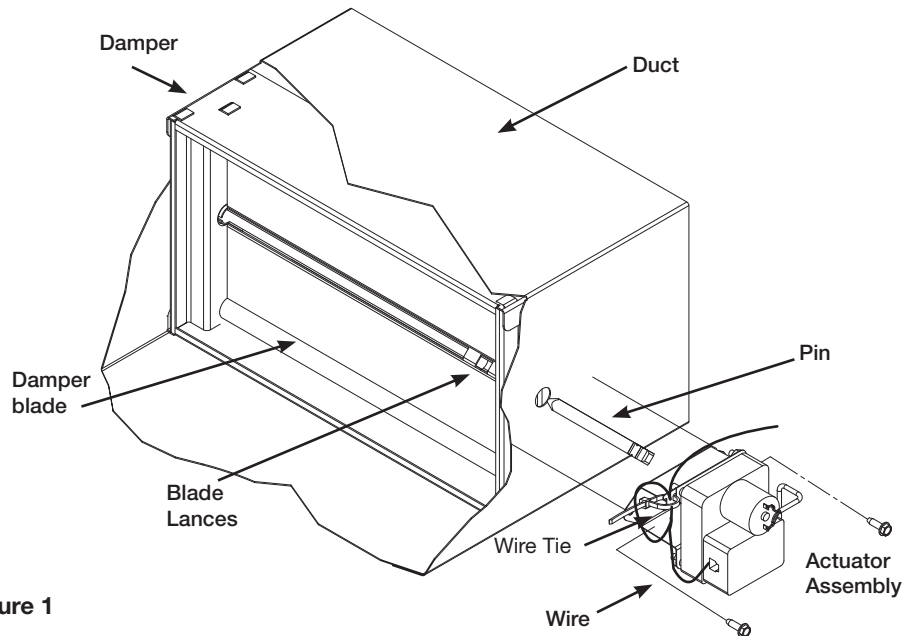

Figure 1
- 1) Install the RBD-10 damper into the ductwork with the lanced end of the blade positioned to the side of the duct where the actuator is to be located (see Figure 1).